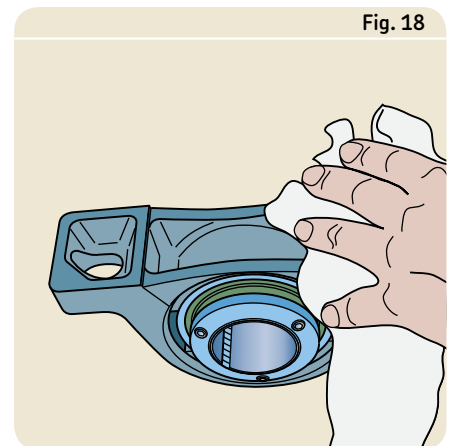

Fig. 18
- 3 Clean the base of the unit and its support surface (→ **fig. 18**), making sure that the support surface is flat and smooth. Flatness should be within IT7 and roughness $R_a \leq 12,5$ mm. In case of pillow block units, if the elevation must be adjusted by shims, the shims must extend the full length and width of the base of the unit.